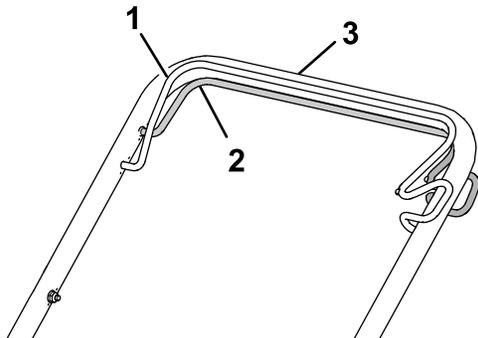

Figure 14
- **To engage the self-propel-drive:** Move the self-propel-drive lever to the desired ground speed and pull the self-propel-drive bar to the handle and hold it (Figure 14).